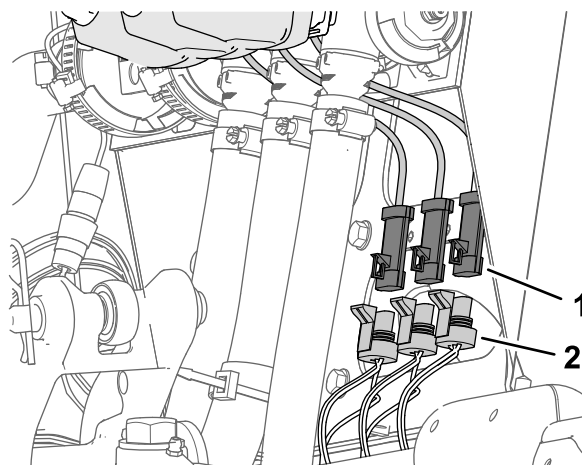

Figure 31
1. Disconnect the 3-socket connector labeled LEFT SPRAY VALVE, CENTER SPRAY VALVE, and RIGHT SPRAY VALVE of the machine wire harness from the 3-pin connectors of the 3 spray-valve actuators (Figure 31).